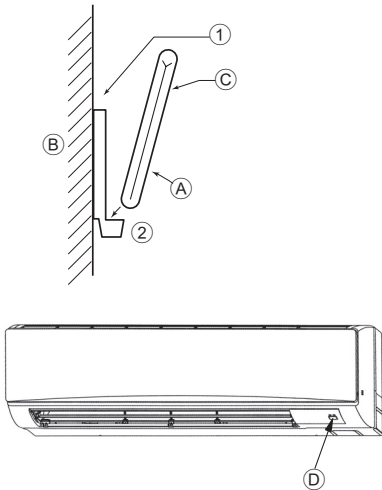
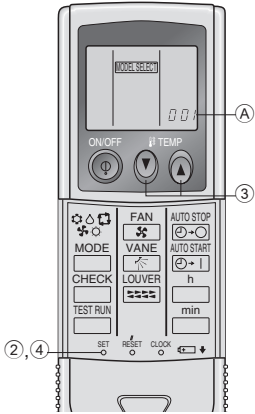

Fig. 6-2
Fig. 6-3
2) Installation method (Fig. 6-2)
- ① Attach the remote controller holder to the desired location using two tapping screws.
- ② Place the lower end of the controller into the holder.
- ① Remote controller
- ② Wall
- ③ Display panel
- ④ Receiver
3) Setting (Fig. 6-3)
- ① Insert batteries.
- ② Press the SET button with something sharp at the end.